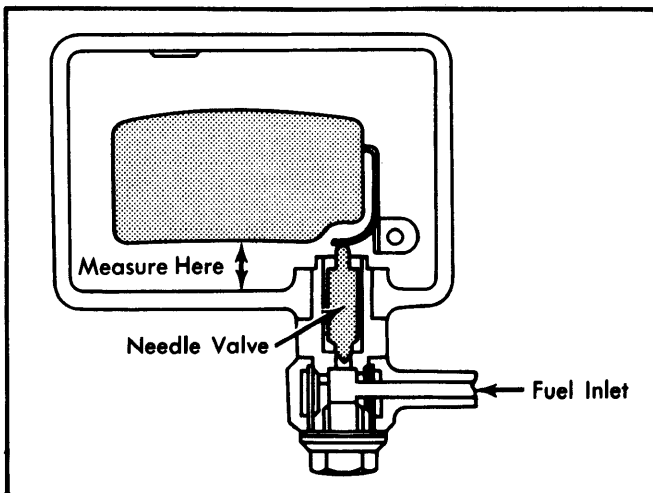

Fig. 1 Float Level Measurement Point
**Datsun** — With sight glass removed and carburetor main body inverted, measure distance from top of float to top of float bowl. Set clearance to .283" (7.2 mm) by bending float tang. See Fig. 1.